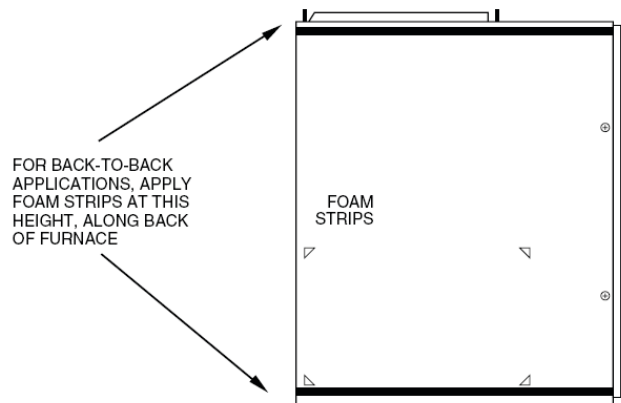

Fig. 8 – Location of Foam Strips
3. Apply two factory-supplied foam strips to mating side of one furnace. Locate strips equal distance from top and bottom as shown in Fig. 8.